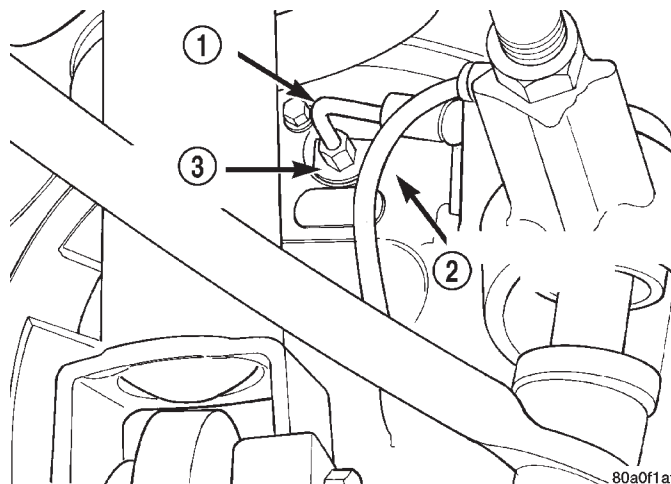

Fig. 100 Brake Flex Hose At Wheel Cylinder
(1) In case of a leak, remove brake shoes (replace if soaked with grease or brake fluid.)
(2) Disconnect rear brake flex hose tube from wheel cylinder and remove the flex hose routing bracket from the brake support plate (Fig. 100).
(3) Hand start the hydraulic brake hose tube fitting into the wheel cylinder (Fig. 100). Tighten the tube nut to a torque of 17 N·m (145 in. lbs.).